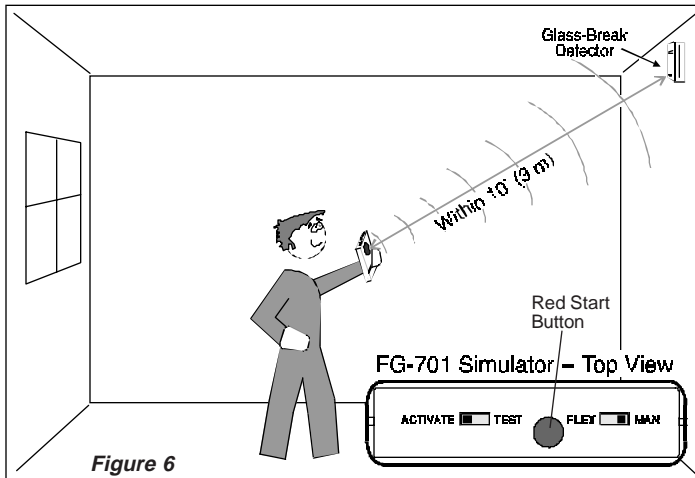

Figure 6
3. Point the front of the simulator at the unit and press the red start button. (Refer to Figure 6.)